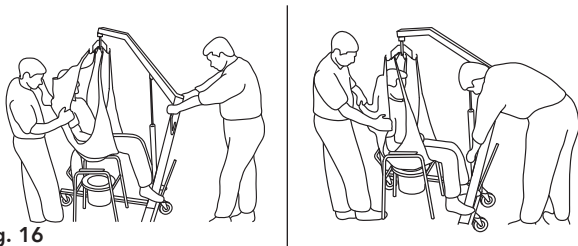

Fig. 16
1. The patient should be elevated high enough to clear the commode chair and their weight supported by the lift. See Fig 16.